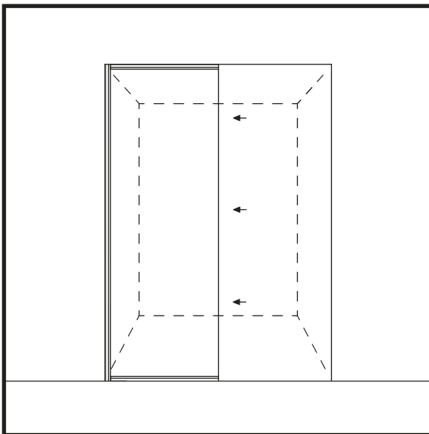

Figure 6
8. Carefully place the glass pane between the U profiles. Carefully push the glass pane all the way against the wall. (Figure 6)